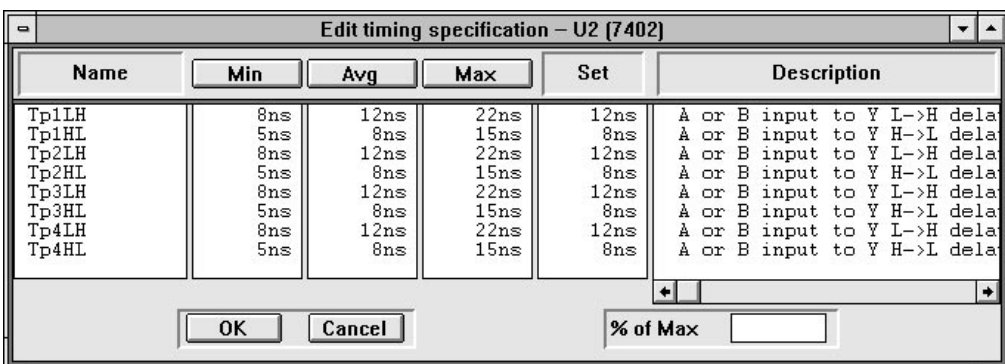

Figure 2-36. Editing propagation delays.
Initially, all ICs are loaded with their average (typical) values. However, using the propagation editor you can change these values. To access the propagation editor, select the **Edit Timing Specification** option in the **Patching** menu. A listing of all parts and macros at the current hierarchy level will be displayed. By selecting a desired hierarchical level and IC, you can display its timing specification table (Figure 2-36). You can edit this table to suit your design requirements. For example, you can set the propagations to Min, Max, Avg. or any % of the Max. In addition, you can edit each parameter individually in the **Set** column.
- ☐ You can edit timing parameters in the **Set** column of Figure 2-36.